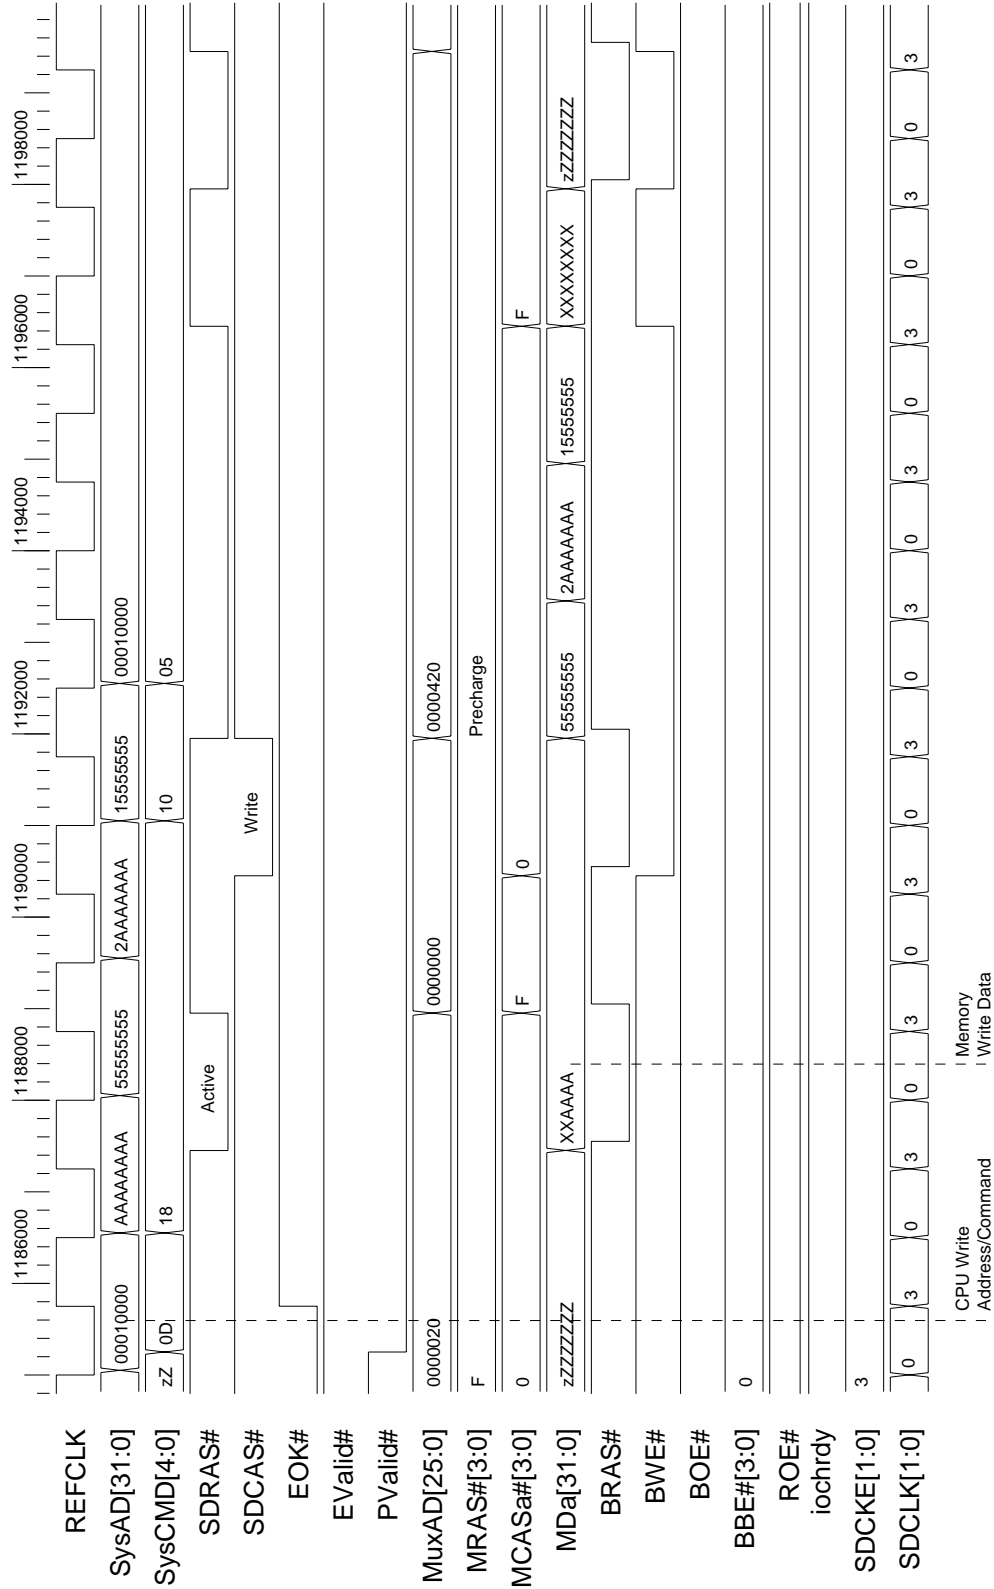

Figure 24. CPU Quad Write to SDRAM SIMM
- Figure 24, CPU Quad Write to SDRAM SIMM, on page 111